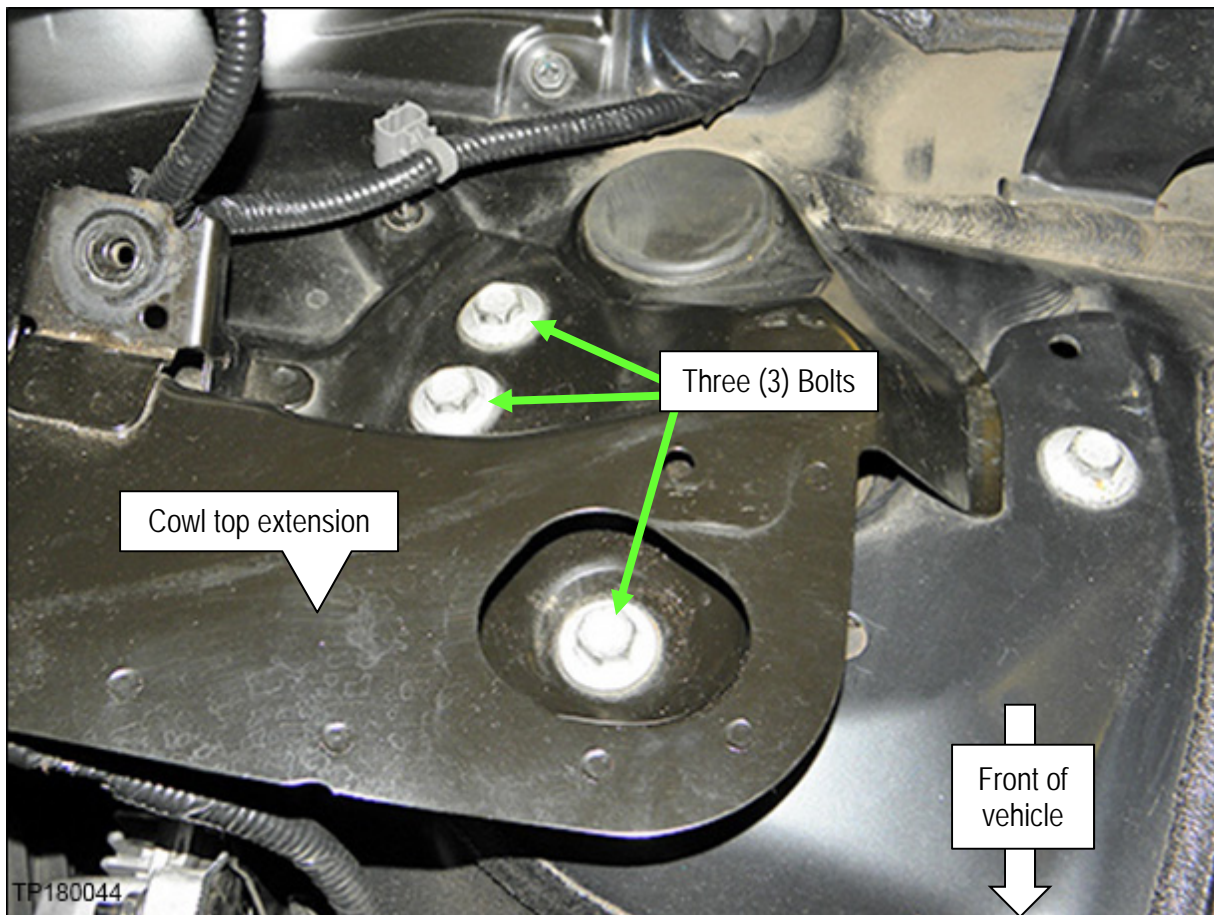

Figure 18
- b. Remove the six (6) bolts that attach the cowl top extension; three (3) at each end.
- Three (3) Bolts shown in Figure 18 are on the driver's side. Three (3) bolts for passenger side are similar, but not shown.